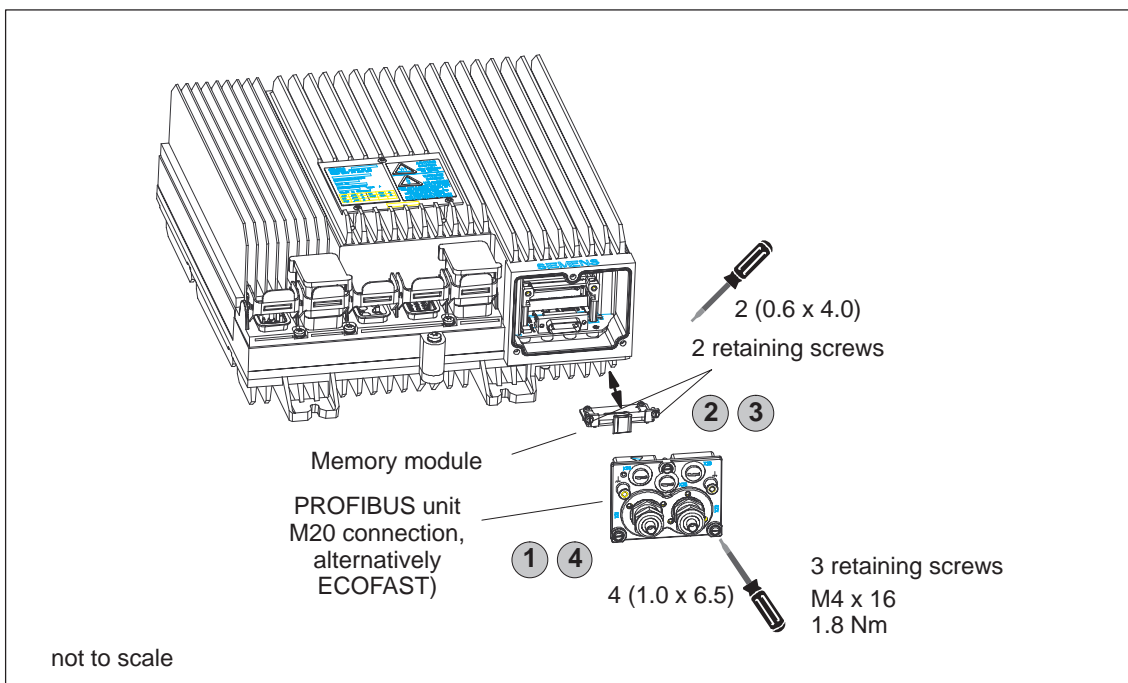

Fig. 8-20 Replacing the memory board for POSMO CD and POSMO CA
- POSMO CD/CA —> refer to Fig. 8-20